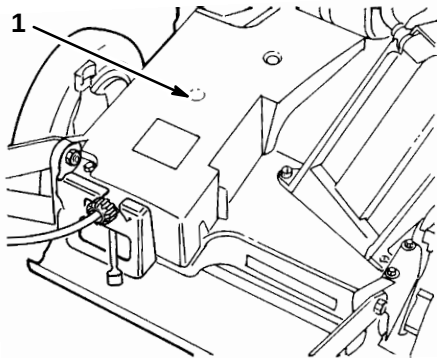

Figure 30
1. Install grease gun onto fitting through belt cover opening (Fig. 30). Gently apply 1-2 pumps of grease.